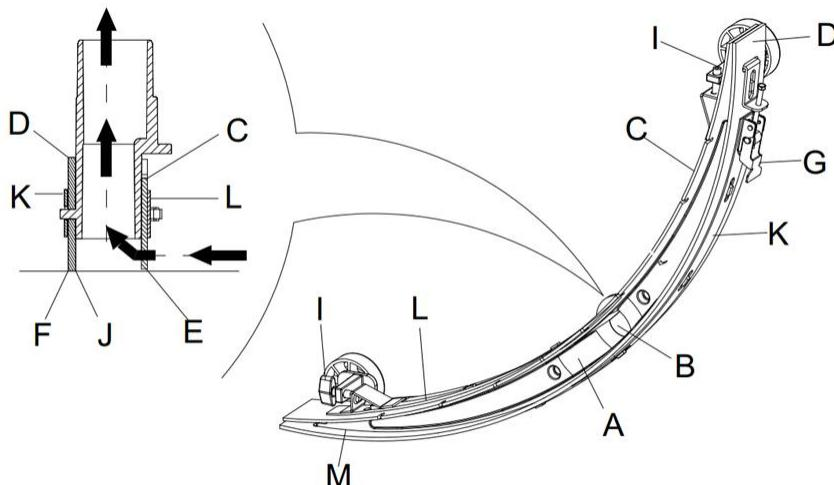

Figure 15
- Press the power switch (41) to the “O” position to turn off the machine.
- Unscrew the fixed handle (16) of the squeegee; take off the connector connecting the Recovery Vacuum tube of the squeegee, and take off the squeegee.
- Use the squeegee lifting handle (14) to lift the squeegee support frame.
- Clean the squeegee (Figure 15). Clean in particular the groove (A, Figure 15) and the dirt and fragments on the Vacuum tube. Check if the front squeegee blade (C) and the rear squeegee blade (D) are intact, and if there are broken edges and cracks. Change them if necessary (refer to the steps in the following section).
- Following the methods related in the previous section clean the squeegee (Figure 15)
- Check the edge (E, Figure 15) of the front squeegee blade and the edge (F) of the rear squeegee blade (D). On the whole length, they should be on the same level. Otherwise, adjust their heights through the following procedure.
- Loosen the clip (G) to let the rear squeegee blade (D) separate from the bracket (M) for the adjustment of the position of the squeegee. After the adjustment, lock the clip once again.
- Loosen the screw on the handle (I) to adjust the front squeegee blade (C); tighten the handle screw after adjustment.
- Check if the front squeegee blade (C) and the rear squeegee blade (D) is intact and if there are broken edges and cracks. If necessary, change them according to the following ways. Check the front edge of the rear squeegee blade (J) whether it has been worn. If worn, it can be installed upside down (the top edge is required to be intact). If the top edge is also worn, change it by following the procedure below:
- Loosen the clip (G) to let the pressure blade separate from the bracket (M), take off the clip bar (K), and then change or turn the rear squeegee blade (D) upside down. Re-install the rear squeegee blade in the reverse order of taking it off.
- Loosen the handle screw (I) and take off the front clip bar (L), and then change the front squeegee (C).